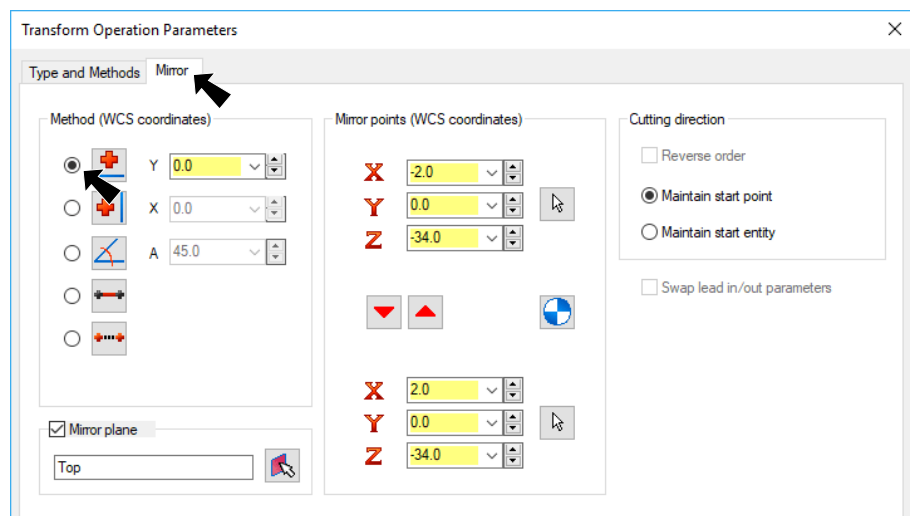

Fig. 27
Step 3. Click the **Mirror** tab at top of dialog box, **Fig. 27**.